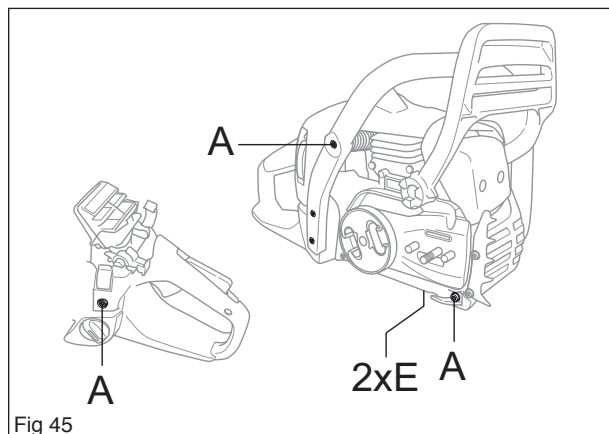

Fig 45
5. Remove the screws. (A and E). Loosen the handle. (see figure 45)
3. Fit the handle with the screws (A and E). Tighten the screws with the torque set out in the service data (see figure 45)